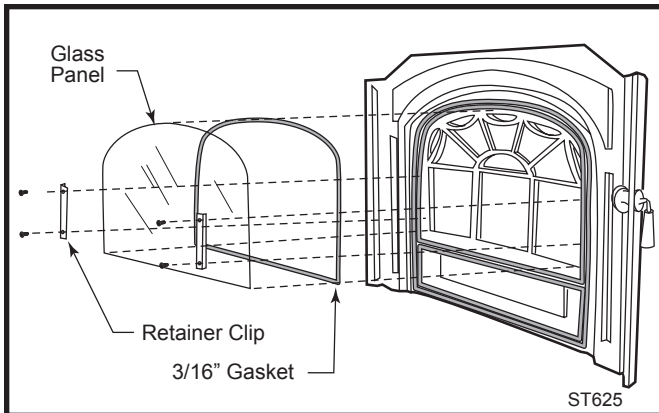

Fig. 36 Glass replacement.
- Open the door and carefully remove the glass by removing the two (2) clips (one per side) that hold the glass panel against the gasket in the arched door opening. Each clip is held in place with two (2) Phillips truss-head machine screws. (Fig. 36)